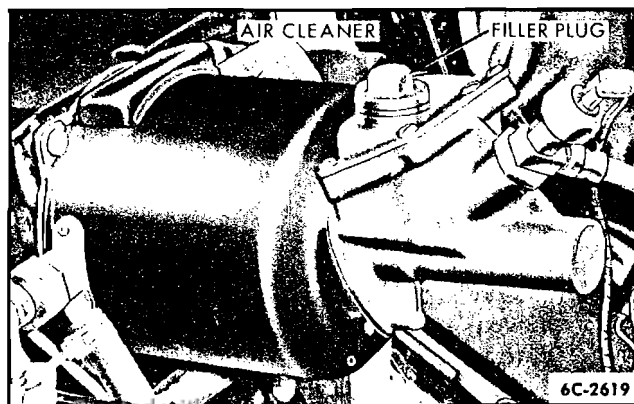

Fig. 11—Power Brake Assembly
12. **BRAKE MASTER CYLINDER.** Check fluid level and add if required. Correct level is 1/4" from top of filler opening. Use hydraulic brake fluid, part number HACA-19542. See figure 11.